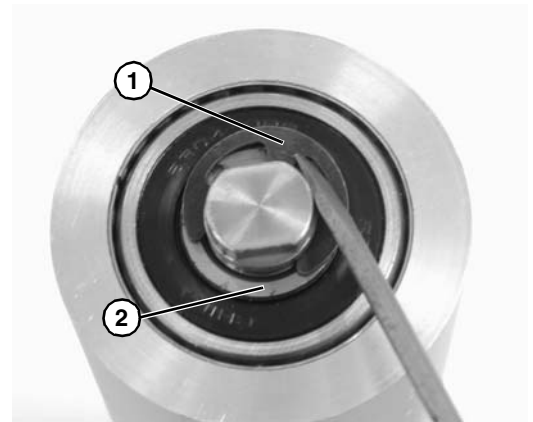

Figure 83
5. Remove the pulley shaft assembly: remove the clip ring (**Figure 83, item 1**) and washer (**Figure 83, item 2**) from one side of the pulley assembly.